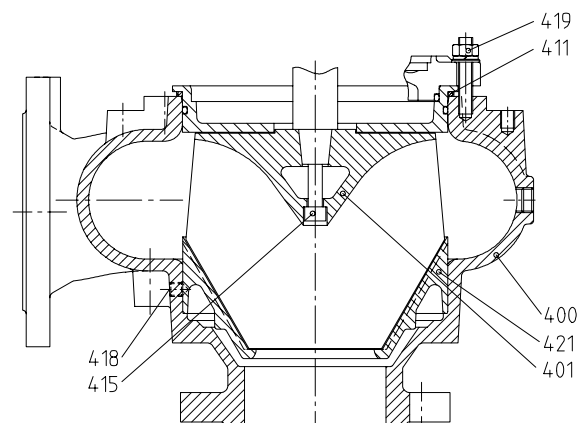

Fig. 5: D03K / D04K
These pumps have a non-adjustable liner (421) held in a fixed position inside a one-piece volute casing. It can be pressed out of the casing after loosening of fastening set (418) (Fig. 5).
**3.4.3 ASSEMBLY OF LINER OR SUCTION COVER****a) For D03K / D04K (Fig. 5)**